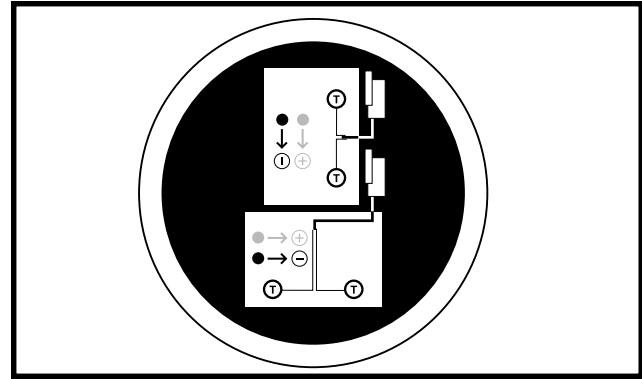

Figure 31. Battery Wiring Diagram
9. Place the batteries back into the power base and connect the battery quick disconnects according to the battery wiring diagram label. See figure 31.